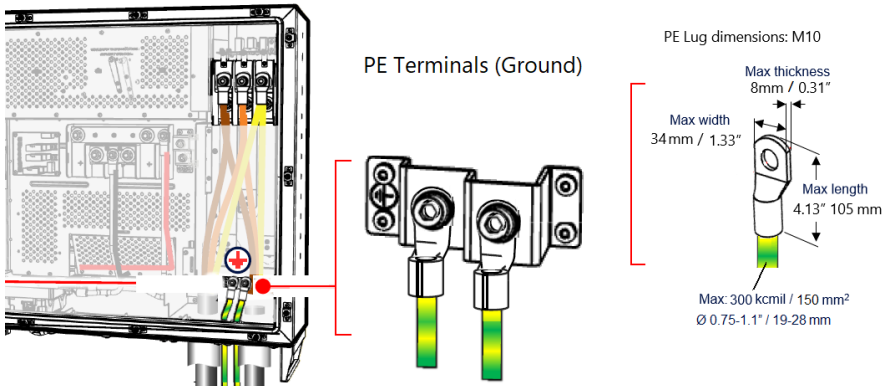

Figure 29: Connecting PE (Ground) to the Inverter
3. Strip the required length of insulation from the PE wire, crimp a lug and connect the wire to a PE terminal and tighten the screw to 16.27 N\*m/12 lb\*ft (see *Figure 29*).